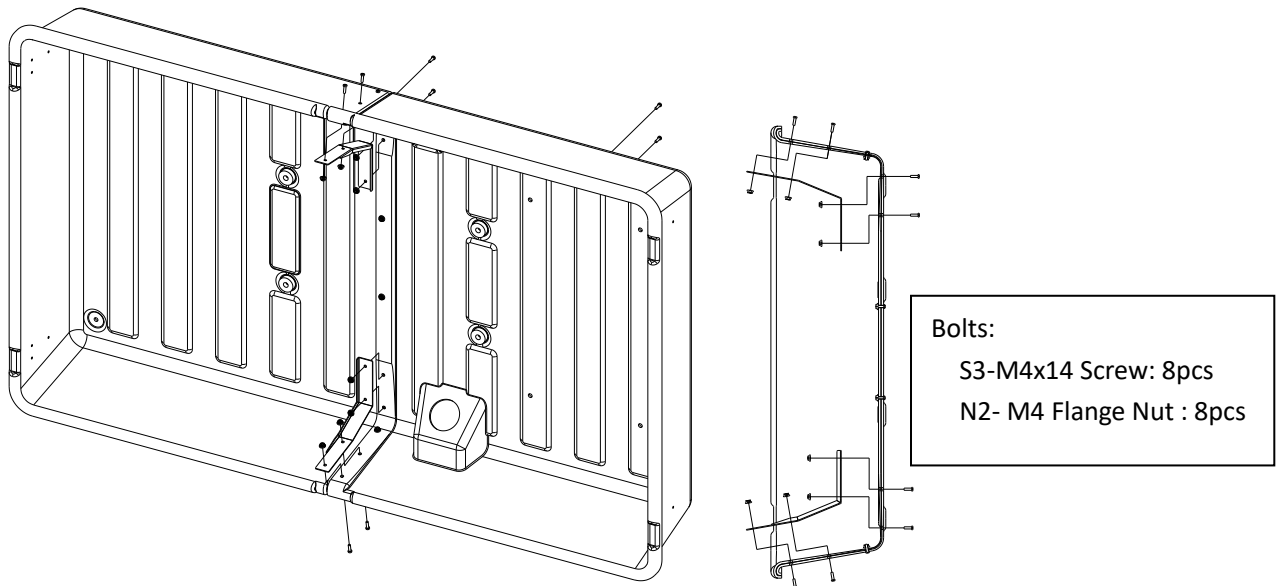

Figure 4
3. Attach the two (2) Angle Brackets using four (4) S3 bolts for each bracket and four (4) N2 Flange Nuts as shown in Figure 4. Note: The bolt head is placed on the outside of the Storm Shell Back and the flange nuts are secured on the inside.